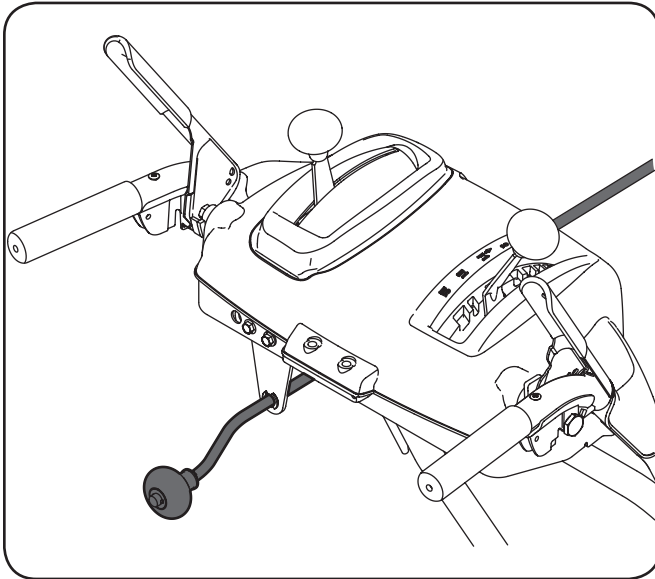

Figure 3-17
4. Insert the chute directional control rod into the support bracket on the rear of the dash panel. See Figure 3-17.